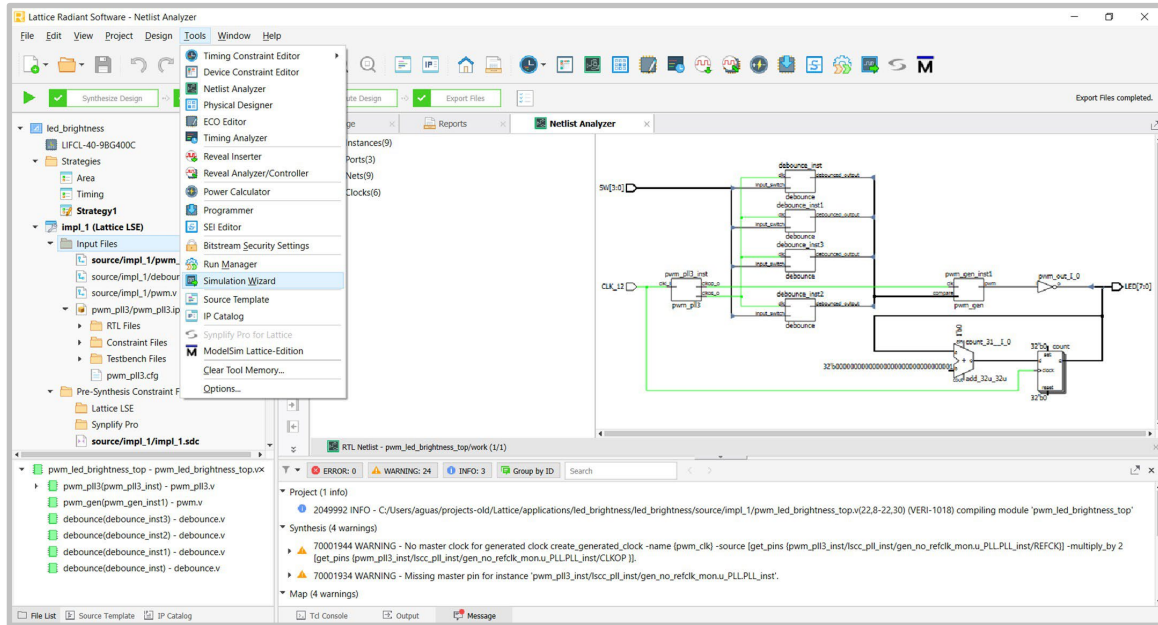

Figure 15: Simulating the Design
14. From the **Tools** menu, select **Simulation Wizard** and click **Next**, see **Figure 15**.